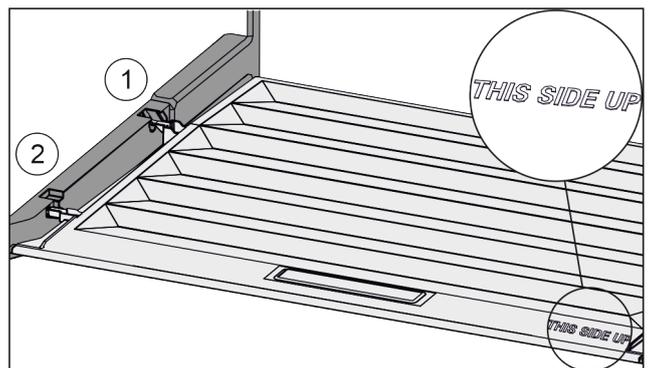

Fig. 127
- ▶ Insert the lip of the cover over the opening of the rear bracket Fig. 127 (1) and click into place Fig. 127 (2).